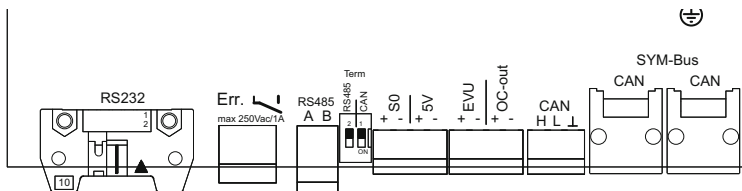

Figure 17: Interface terminals
3. Connect the connection cables to the corresponding connection terminals (see Figure 17 on page 26).